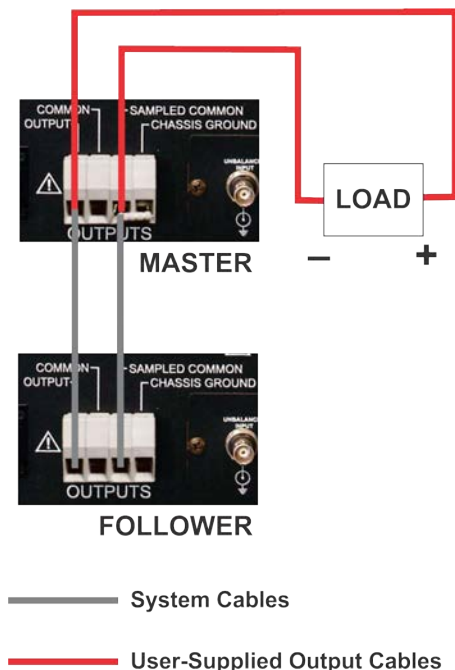

Figure 2.10 – Connecting the load
2. Locate the four-position terminal barrier block on the back panel of the Master amplifier module (see **Figure 2.10**). Connect the negative terminal of the load to the SAMPLED COMMON terminal.